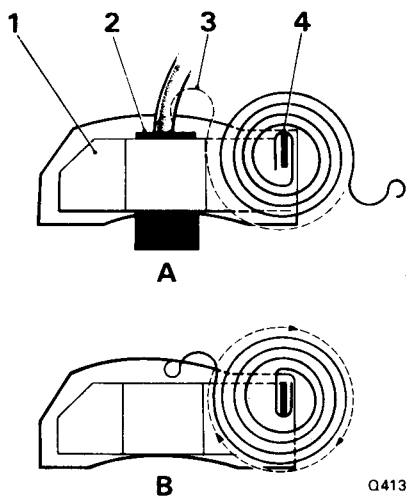

FIG. M13 CORRECT FITTING OF BRUSH SPRING
2. If new brush springs are required ensure that they are correctly fitted (see Fig. M13). If the springs are incorrectly fitted there will be excessive pressure on the brushes resulting in premature brush wear and damage to the commutator.